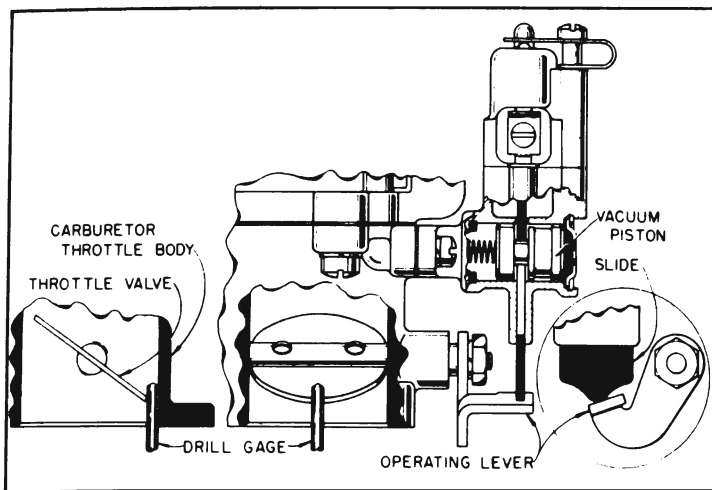

Figure 10-35—Setting Switch Timing with Carburetor Removed
2. Bend tang on switch operating lever until it just touches switch slide. See figure 10-35.